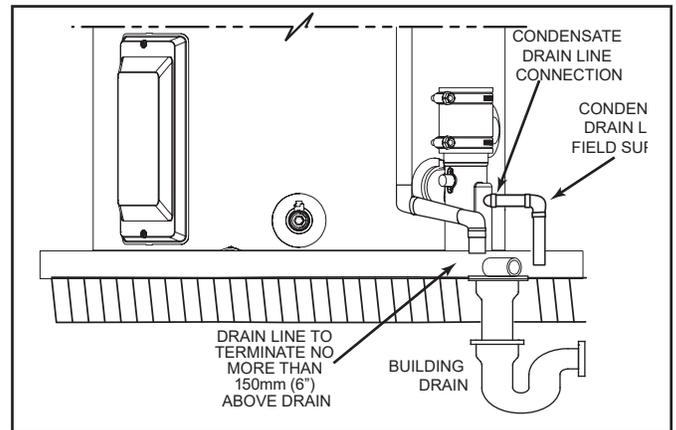

Figure 34. Condensate Drain Configuration
**DO NOT** remove, modify or alter the factory installed exhaust/condensate elbow for any reason. See Figure 34. The water heater's vent pipe is under a slight positive pressure while unit is in operation. The water trap inside of the exhaust/condensate elbow prevents flue gases from escaping into the installed space.
In addition to using lowest possible temperature setting that satisfies demand of application, to reduce the risk of scalding, install Thermostatic Mixing Valves (temperature limiting valves) at each point-of-use. See *Figure 34* (page 28).